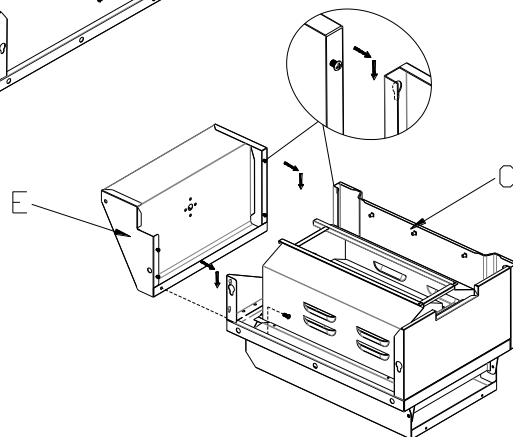

Fig.2
- Loosen but do not remove the four 5/32 screws on the sear side burner control panel (E).
- Align the key holes on the sear side burner bowl assembly (C) .Hang the sear side burner control panel (E) to the sear side burner bowl assembly (C) and tighten the screws loosen in step a.
- With one screw removed in step b insert it from the sear side burner control panel (E) to the sear side burner bowl assembly (C), then tighten. See Fig.2.